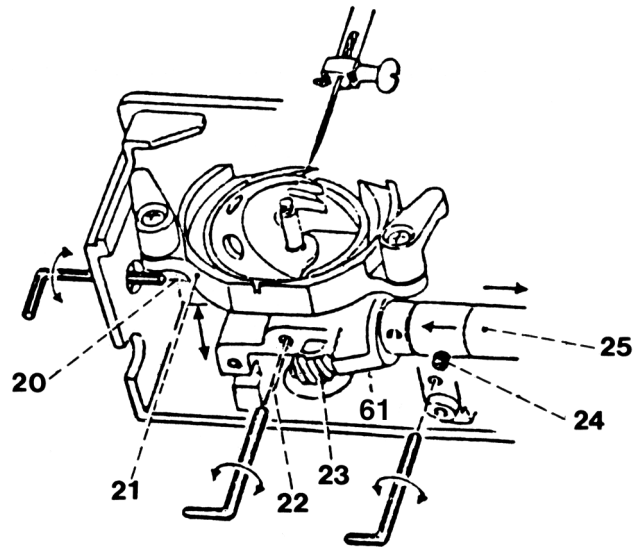

Fig. 7
Toothed segment 61 must not strike the gear housing when the sewing hook timing of 2.5 mm is correctly set (fig. 7).
- Turn hook drive shaft 25 until center of toothed segment 61 is exactly facing bevel gear 23 (fig. 7).